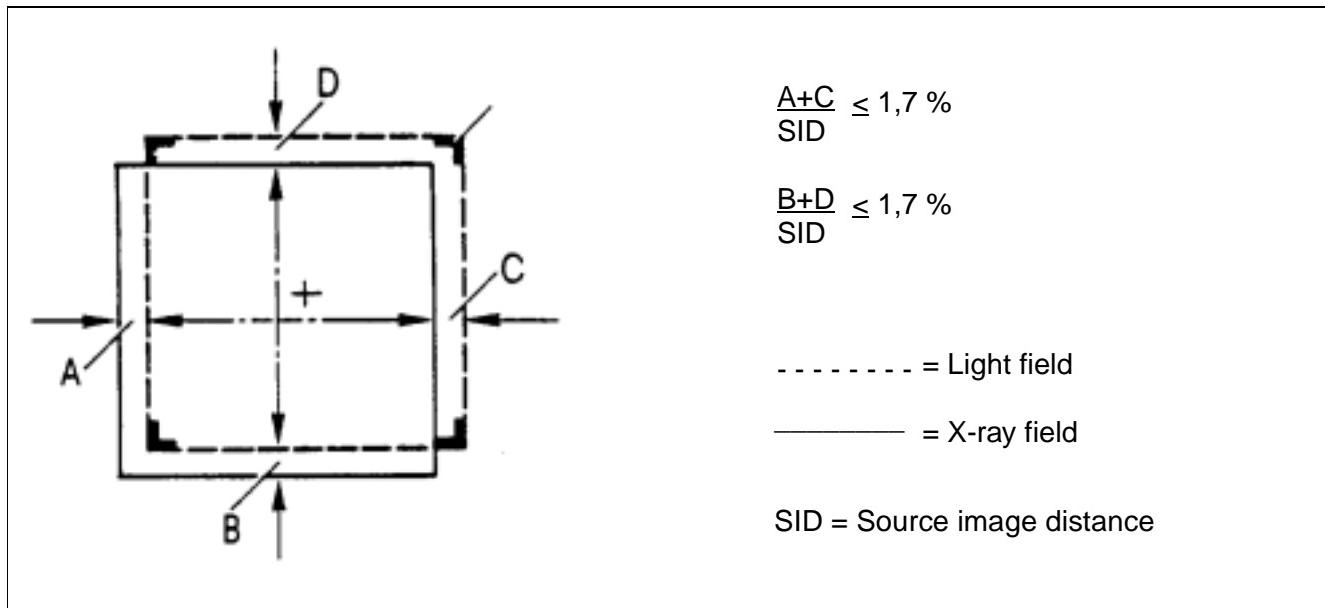

Fig. 8
- Process the film and measure the deviation between the light field and the X-ray field. Permissible deviation  $\pm 1.7\%$  of the SID, see Fig. 8.